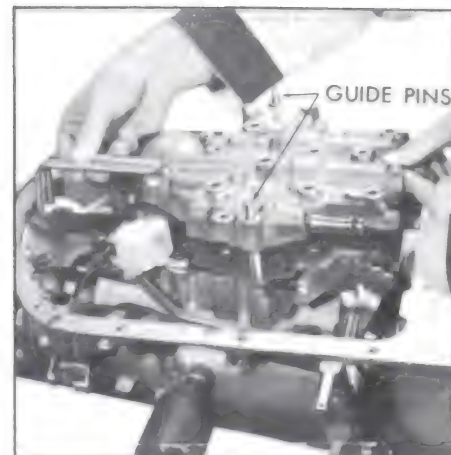

Figure 5-723
3. Install two guide pins (control valve assembly attaching screws with heads removed). See Figure 5-723.